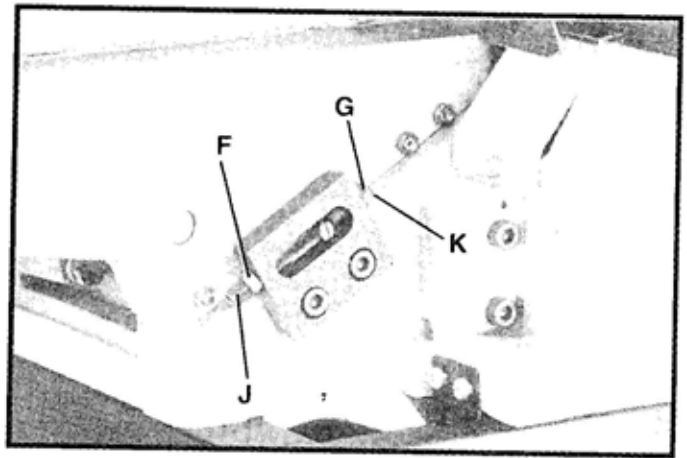

Fig. 37
1. Positive stops are provided to limit the height and depth of the infeed table. To adjust the stops, simply loosen two locknuts (F) and (G) Fig. 37, and turn the two adjusting screws (J) and (K) as required. Then retighten the locknuts (F) and (G). A good suggestion is to set the upper positive stop (J) for your finish or final cut. This means that you will be able to rapidly set the infeed table for a finish or final cut without checking the scale and pointer. Also the lower positive stop (K) can be set for the maximum 1/2" depth of cut or if you desire to limit the depth of cut, adjust the stop screw (K) accordingly.